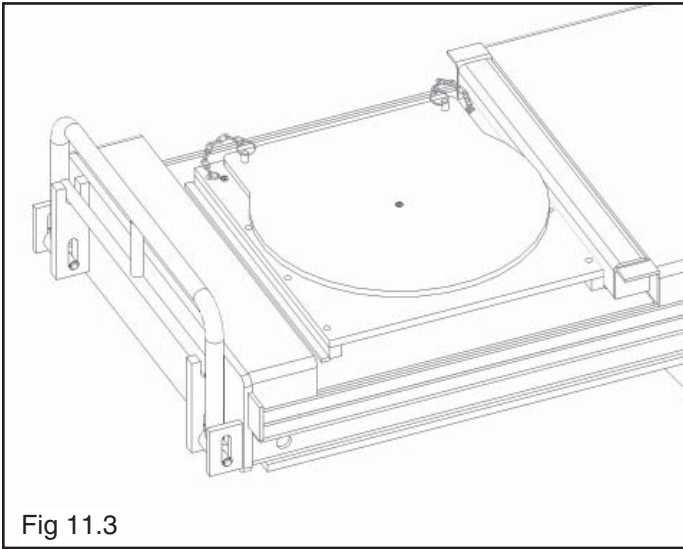

Fig 11.3
4. Insert the Rollback Spacer Bars between the Turnplate as needed for alignment procedures. (See Fig 11.3)